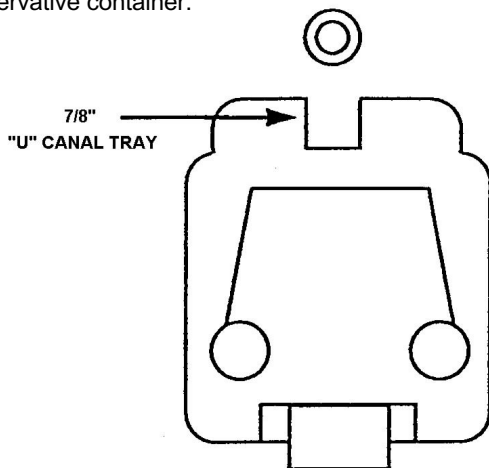

FIGURE 2
- a) If the "U" canal hose path is 7/8" depth (see **Figure 2**), then proceed with hose replacement.